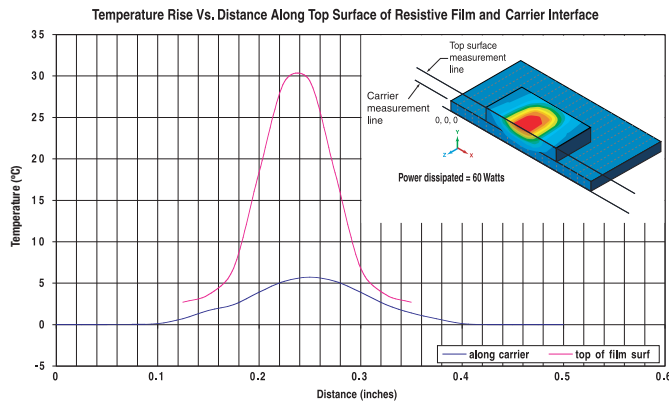
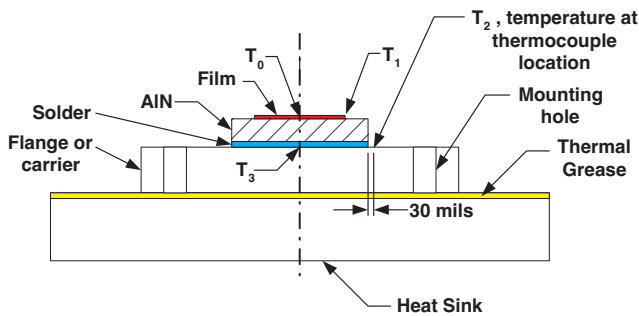

Figure 11: Computer simulation of isotherms around mounted chip resistor
Figure 12: Temperatures at a number of points on and around a ground plane-mounted resistive chip
(The latter can characterize only the kind of one-dimensional heat flow assumed for equation (2).) **Stated alternately, the temperature will vary laterally along the film and, also, laterally along the mounting surface.** This is illustrated in **Figure 11**, which was made using a "Finite Element Method" (FEM) computer simulation. In actuality, a three-dimensional latticework of resistors is needed to describe a mounted resistive chip, and there is temperature variation along all three dimensions.
The above considerations bear importantly on how a chip is designed and characterized for power handling and exactly how confirming measurements are made. Figure 12 indicates temperatures at a number of points on and around a mounted chip: (a)  $T_0$ , at the film centroid; (b)  $T_1$ , at the film edge or corner; (c)  $T_3$ , on the mounting surface directly under the film centroid; and (d)  $T_2$ , on the mounting surface 30 mils away from the chip edge. We can make the following qualitative observations:
An ideal heat sink has infinite thermal conductivity and, because of this, the infinite thermal conductivity,  $T_2$  would equal  $T_3$  in Fig. 12. From Fig. 10 and Fig. 11, this clearly is not the case for any real mounting surface; in fact,  $T_3 > T_2$ .
One strategy for defining power rating might be to measure  $T_3$  directly – or deduce it from a measurement of  $T_2$  and a computer FEM model – and then specify performance as if an ideal heat sink were held everywhere at that temperature. By slicing a mounted resistor in half along its longitudinal axis – in Figure 12, perpendicular to the plane of the paper, down the centerline – we were able to take advantage of the lateral heat-flow symmetry to measure  $T_2$  and  $T_3$  for chips of several sizes and input powers. (The slice plane is an adiabatic boundary, i.e., no heat flows across it.) Results of such measurements are presented in Table 2. All chips were 40 mils thick and all measurements were made on a silver-plated high-conductivity copper mounting surface (see the table for more information).
- Next, since our carrier does not have infinite thermal conductivity, we must specify the exact location –  **$T_2$  in Figure 12 – at which we hold the ambient temperature constant. Typically, we choose this as 30 mils from the chip edge along its lateral centerline – an arbitrary, convenient spot at which to solder a small thermocouple.**